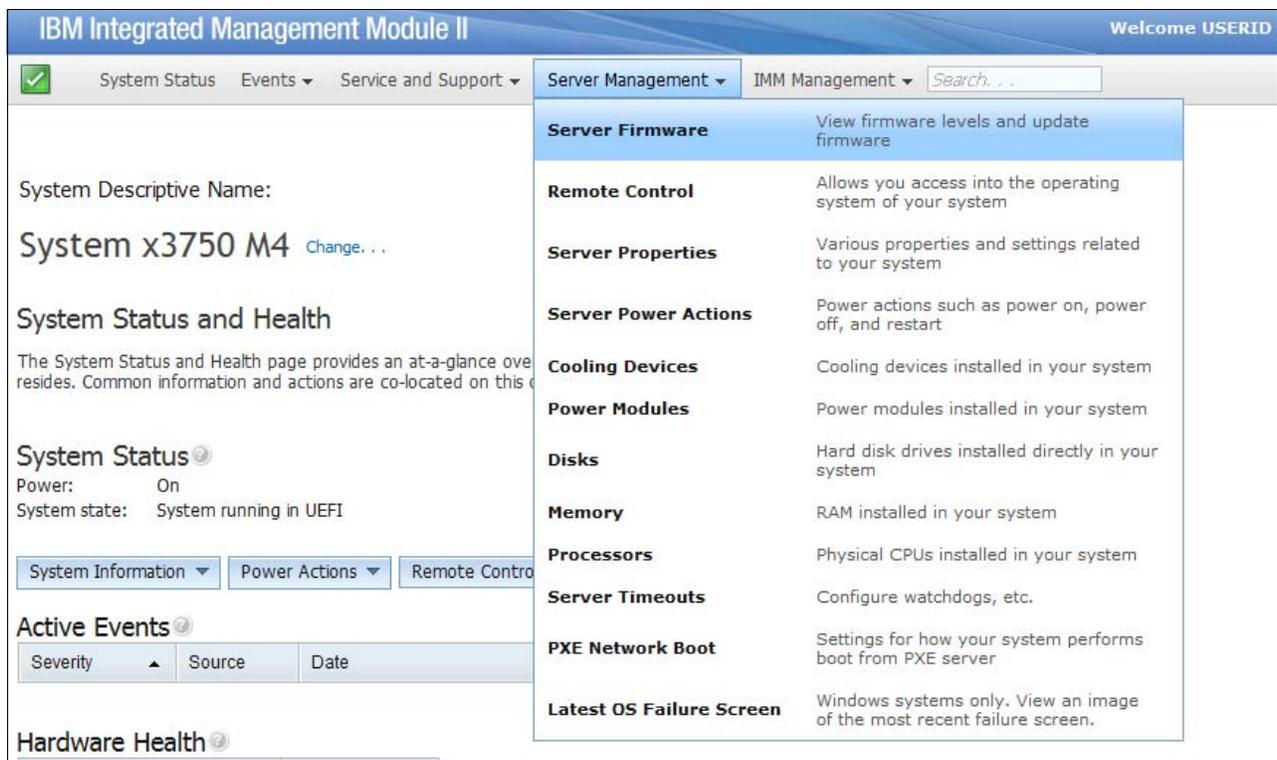

Figure 4-11 IMM2 server firmware
2. Click **Server Management** → **Server Firmware** as shown in Figure 4-11.